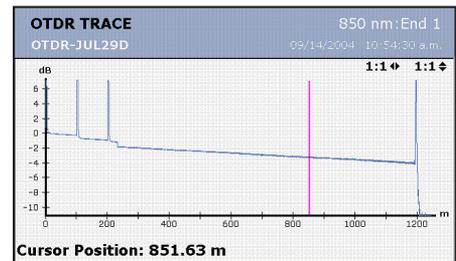
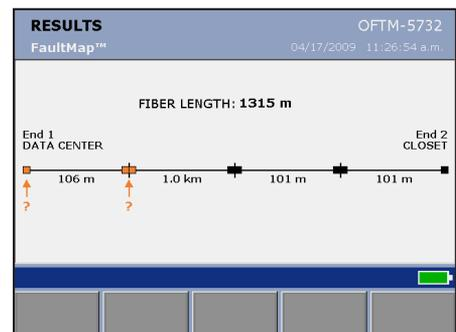

Figure 1. Depiction of a typical OTDR trace.
Figure 2. Advanced troubleshooting capability, such as highlighting questionable connectors in the link-under-test.
An OTDR infers loss, reflectance, and locations of events by shooting pulses of light into one end of a fiber link and using a photodetector to sense reflections from loss-causing incidents such as connectors, splices, and bends. These incidents are often referred to as "events" - some of which are expected and others, unexpected. When a pulse of light travels down the fiber, most of it continues in the direction of the fiber. However, due to the inherent composition of the glass fiber, a small fraction of the light, called "backscatter", is dispersed in different directions. Some of this backscatter makes its way back to the sensitive detectors at the OTDR source, which is analyzed before being graphically displayed to depict the link-under-test. Such a characterization of the fiber link is called a "trace", and plots the measured reflectance and loss over time. See Figure 1 for an example. Legacy OTDRs used to require years of technical experience in order to read and interpret traces; however, the majority of present-day OTDRs contain comprehensive software that automate trace analysis and test parameter set-up, among other advanced analytical capabilities (see Figure 2).
- Review the testing results for any passes or failures. Results are typically conveyed in a graphical plot or event chart format. As shown in Figure 1, the OTDR trace should decrease gradually from left to right because of loss from scattering and events such as connections and splices. Reflections, in the form of spikes on the trace, can be caused by breaks, cracks, splices, connections, and sharp bends.